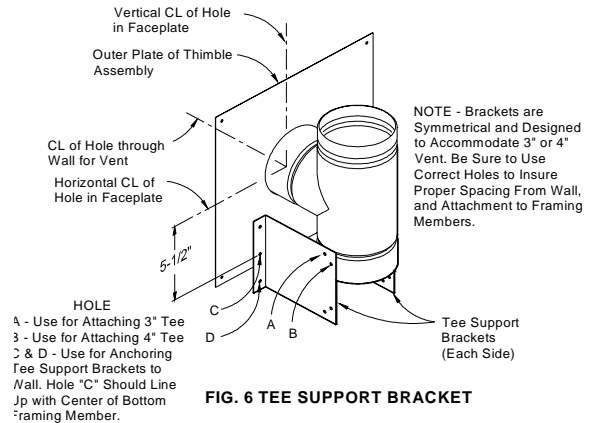

FIG. 6 TEE SUPPORT BRACKET
1. Referring to Fig. 6, first draw a pencil line on the outer faceplate of the thimble, extending horizontally through the center of the hole.
2. Measure down 5-1/2" and draw a second horizontal line. This line, which is over the center of the lower framing member, will be used to locate the top most screws (location "C" in Fig. 6) for the support brackets.
4. Referring to Fig. 6, orient the support brackets as shown and attach each to the bottom left and right side of the tee using a hex head screw routed through the appropriate holes in the support brackets ("A" or "B" from Fig. 6) and into the 1/8" hole provided in each side of the tee, approximately 1" up from the bottom. Rotate brackets to the approximate position shown. Engage screws partially.
8. Once properly situated, secure brackets to wall with four (4) wood screws (provided) using holes "C" and "D". Note that the top hole on the flange of each bracket is not used.